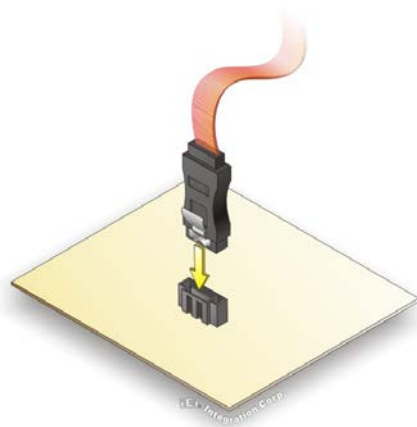

Figure 4-12: SATA Drive Cable Connection
Step 2: Insert the cable connector. Insert the cable connector into the on-board SATA drive connector. See **Figure 4-12**.